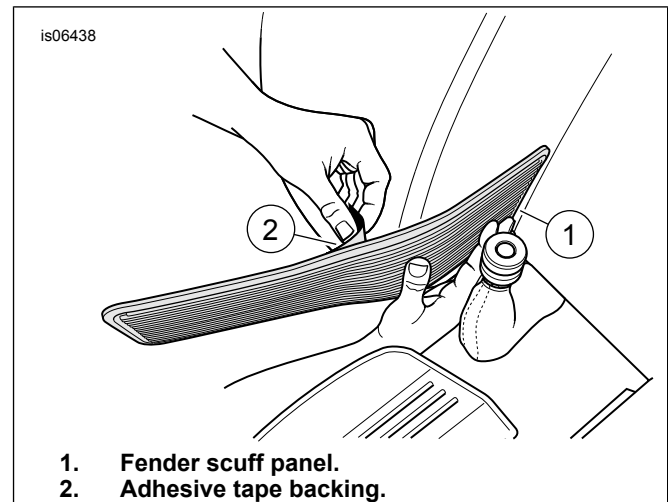

Figure 3. Removing Adhesive Tape Backing
4. See Figure 3. Hold the inner half of the panel (1) in place while removing the adhesive tape backing (2) from the outer half of the panel.